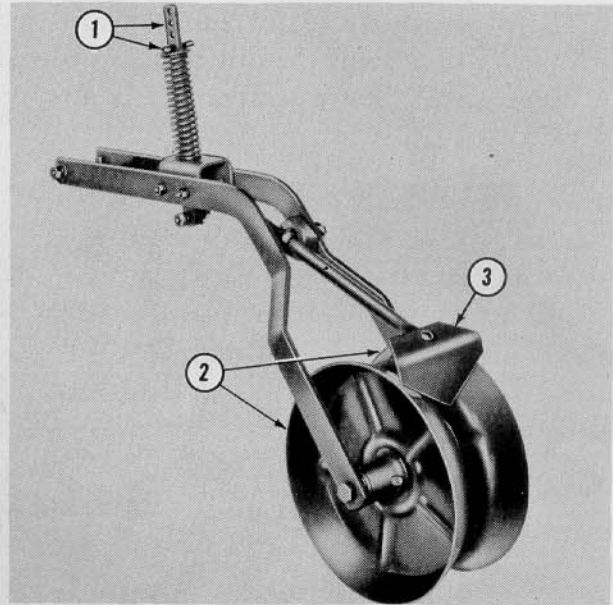

Figure 20
The press wheel attachment for the Dearborn Lister Planter shown in Figure 20, is quickly and easily attached. A four hole adjustment (1), Figure 20, is provided to obtain the desired spring tension.
The press wheels (2), Figure 20, turn individually to prevent the dirt bridging between them. An adjustable scraper (3) is also provided.